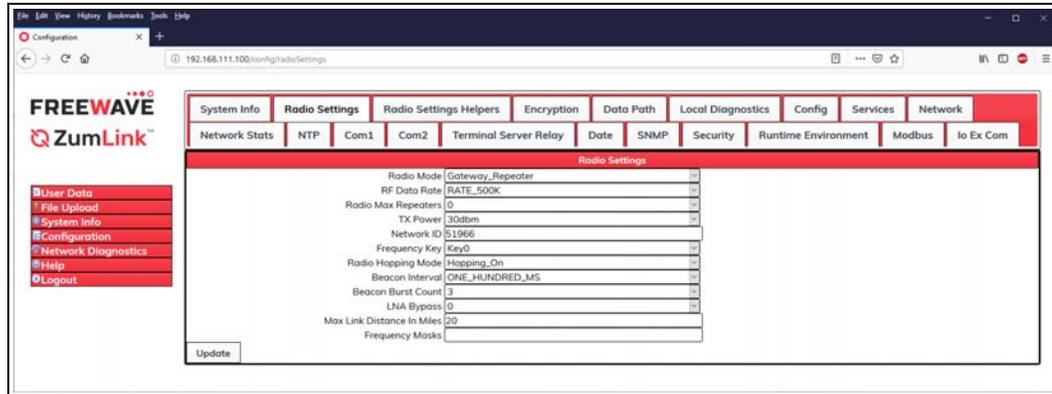

Figure 288: Radio Settings window - Gateway_Repeater
7. Click the **Radio Mode** list box arrow and select **Gateway_Repeater**. Figure 288